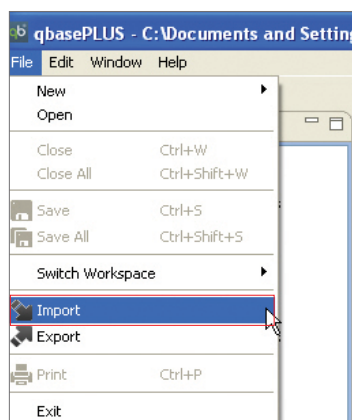

Fig. 8. Selecting Import from the File menu.
7. To import a run, select **File > Import** in the main menu (Figure 8).